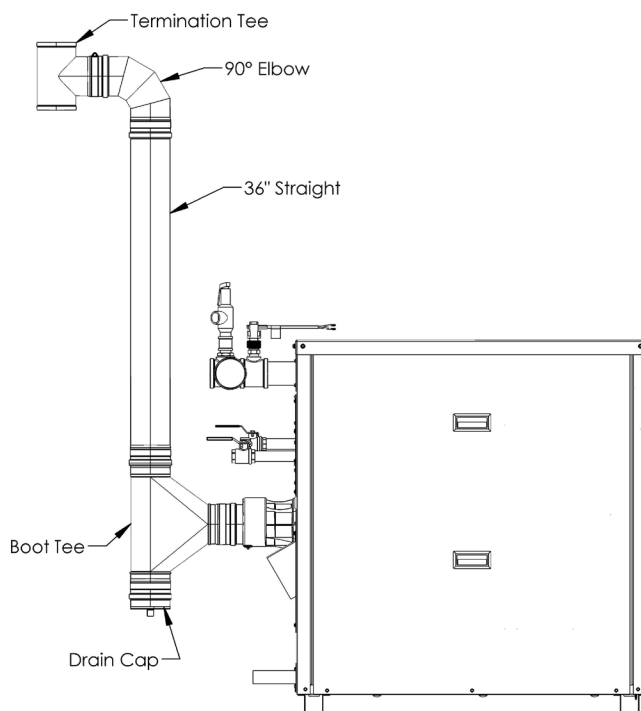

Figure 9: Outdoor Venting Installation
1. Recommended venting configuration for outdoor installation is shown in Figure 9